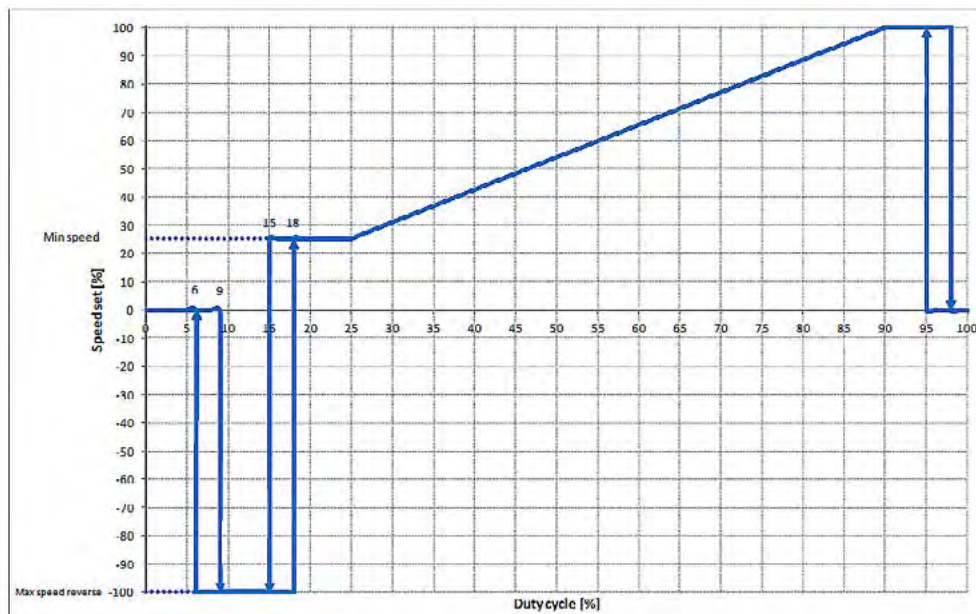

Figure 2
- Duty cycle of 20-90% yields fan speed of 28-100% (See Figure 2, below).